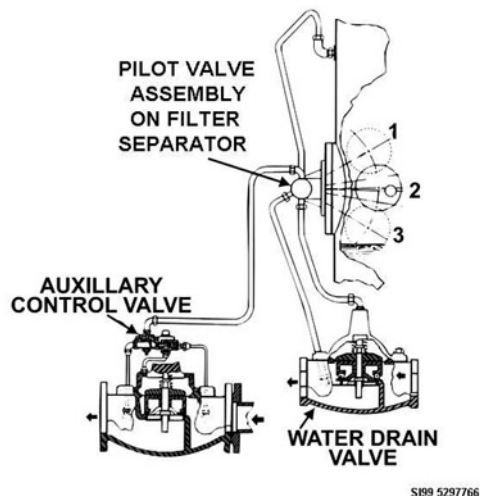
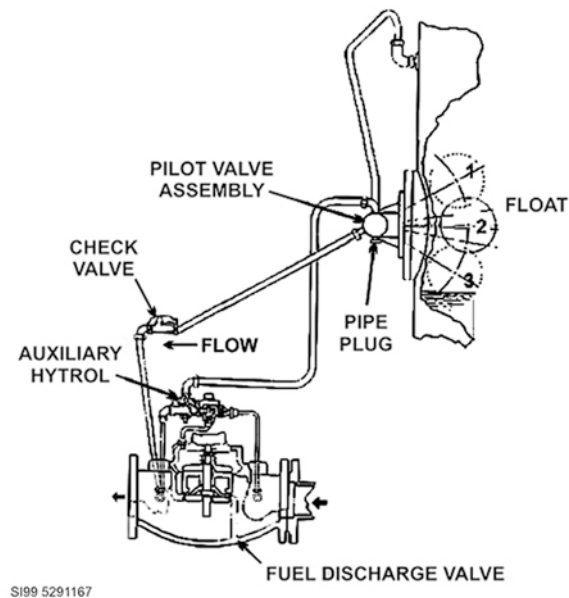

Figure 2-5. F/S control valve.
Figure 2-7. F/S control with the water drain removed.
F/Ss that receive fuel from barges or pipelines with histories of excessive water may have automatic WDV's installed. Look at figure 2-5, where you can see the main components of the water drain system. The three major components are the: (1) pilot valve (flanged float control) assembly, (2) WDV, and (3) auxiliary hytrol control valve. The auxiliary hytrol control valve is located on the FDV. These three components are connected together by control tubing. The tubing will either supply pressure or drain pressure, depending on the position of the float on the pilot valve assembly.
If, however, more water enters the sump than the WDV can release, the float will rise to the **TOP** position, shown in figure 2-5 (1). With the float in this **TOP** position, the rotary disc, once again, realigns ports. The cover chamber of the WDV is still aligned with the drain tubing, allowing water to be forced out of the sump. But now the water is reaching a critical height and could be pumped out
As the water level goes down, the alignment of ports will change as just mentioned. Thus, with the float in the CENTER position, shown in figure 2-5 (2), both the WDV and the FDV are open; and, as the float goes to the LOWEST level, shown in figure 2-5 (3), the WDV will close, but the FDV can remain open.
Figure 2-7 shows how the F/S control system looks with the WDV removed. All F/Ss, with the exception of those that are received from barges or historically wet pipelines, will have the automatic water drain removed.
Comparing figure 2-5 to figure 2-7, you will notice that the control tubing that once went to the water drain cover chamber is now plugged off. The control tubing that went to the inlet of the WDV is now rerouted to the downstream side of the FDV, and a check valve is installed on the tubing to prevent reverse flow.